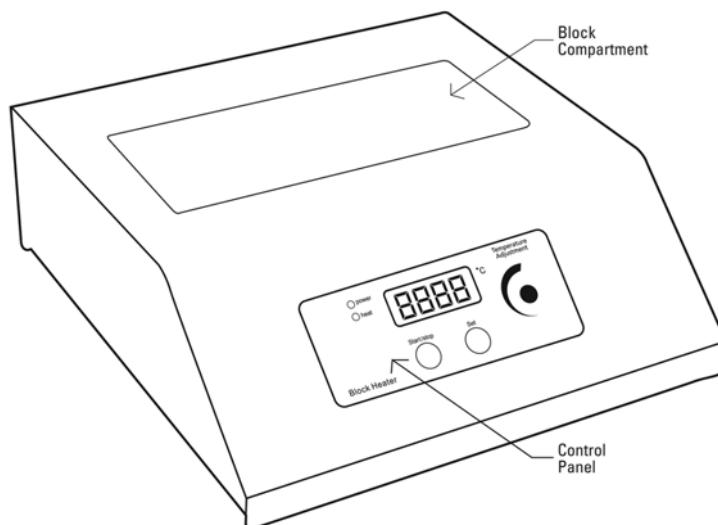
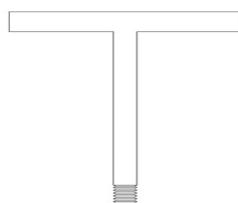

Figure1A.
Figure1B. Removing Tool CL-200-RT
1. Put the block into the blocks compartment (see Figure 1A), use block handling tool (Figure 1B) to add and remove the block